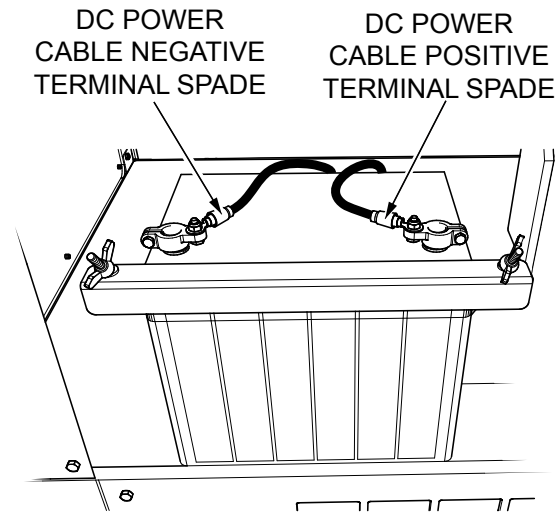

Figure 8. Battery Tender Cable Routing
- Connect the DC power cable (Figure 8) positive terminal spade to the positive battery post and the negative terminal spade to the negative battery post.